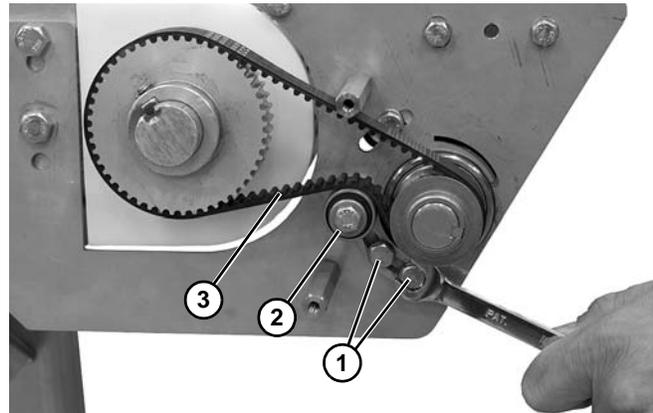

Figure 55
2. Loosen two hex head screws (Figure 55, item 1) holding tensioning bearing (Figure 55, item 2) against timing belt (Figure 55, item 3).